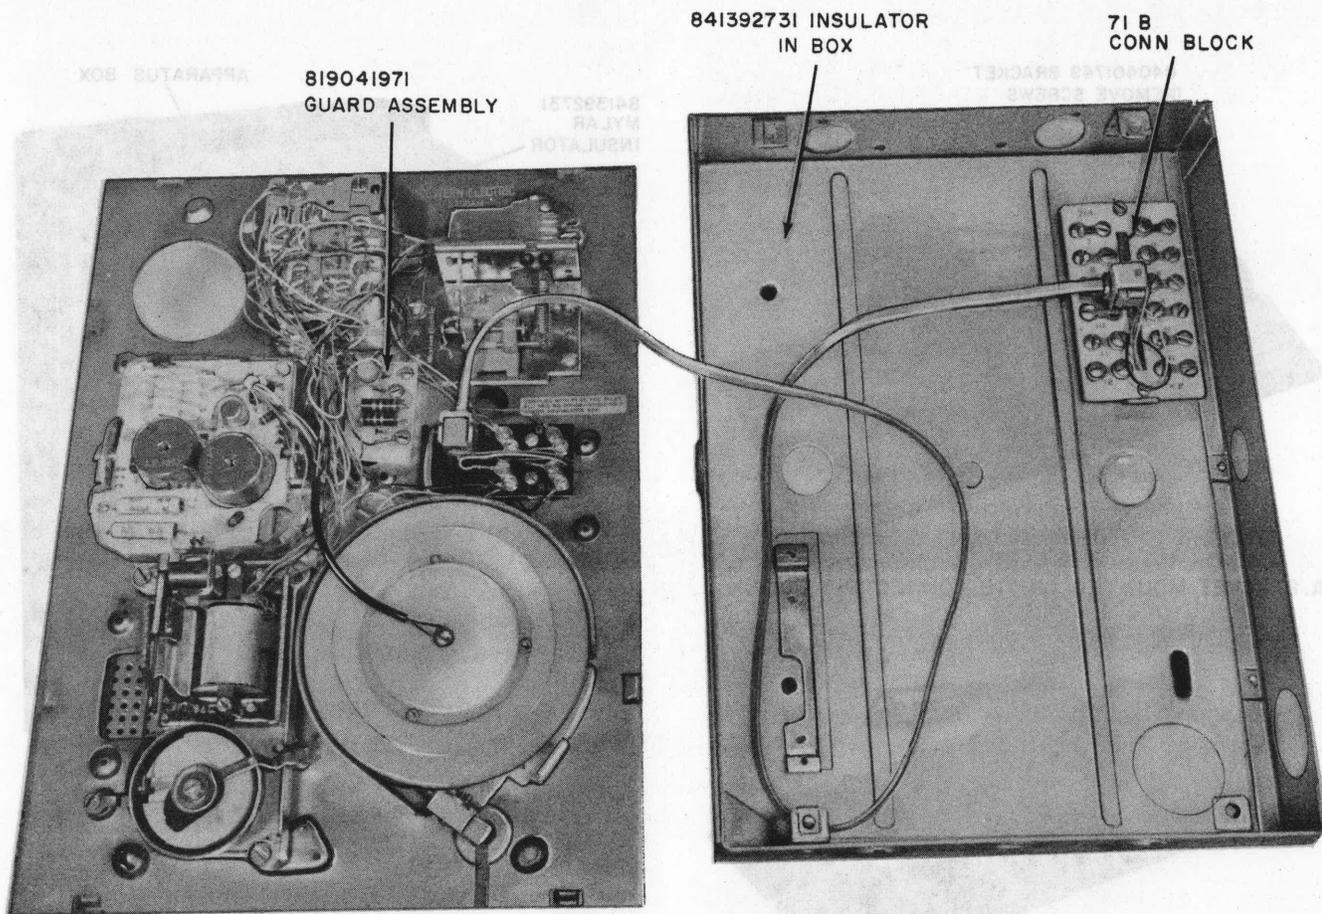

Fig. 4—Rear of 2750AM (MD) or 2750BM (MD) Telephone Set Showing 819041971 Guard Assembly With Insulator and 71B Connecting Block Installed in Apparatus Box
2.09 ♦The polarity guard is optional for the 2750AM (MD) and 2750BM (MD) telephone sets and must be ordered separately. It is intended for use when specified by local instructions for end-to-end signaling installations. Refer to Table D for polarity guard connections and Fig. 4 for location of 819041971 polarity guard in set. The 2750AMG and 2750BMG telephone sets are equipped with the 840364376 polarity guard which is located beneath the network and next to the 35-type dial.♦